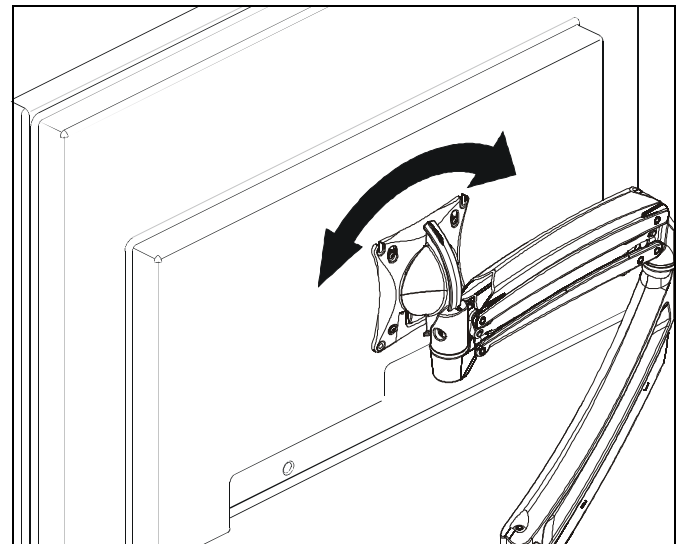

Figure 8
1. The monitor may be adjusted 90 degrees in either direction in order to provide a portrait view of the monitor. (See Figure 8)